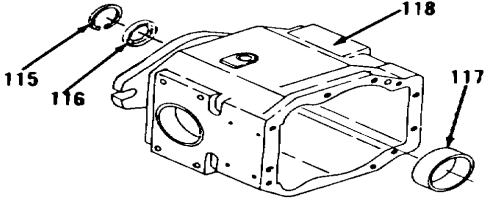
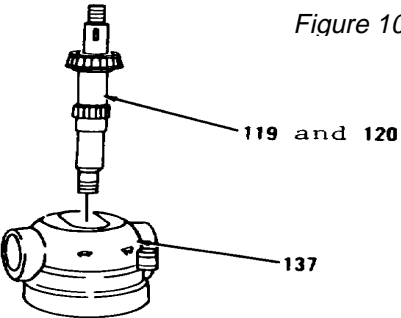

Figure 10-38.
Figure 10-39.
- 53. Remove ring (115, Figure 10-38).
- 54. Remove and discard seal (116).
- 55. Remove bearing cup (117) from body (118).
- 56. Remove items 119 and 120 as an assembly from barrel (137, Figure 10-39).